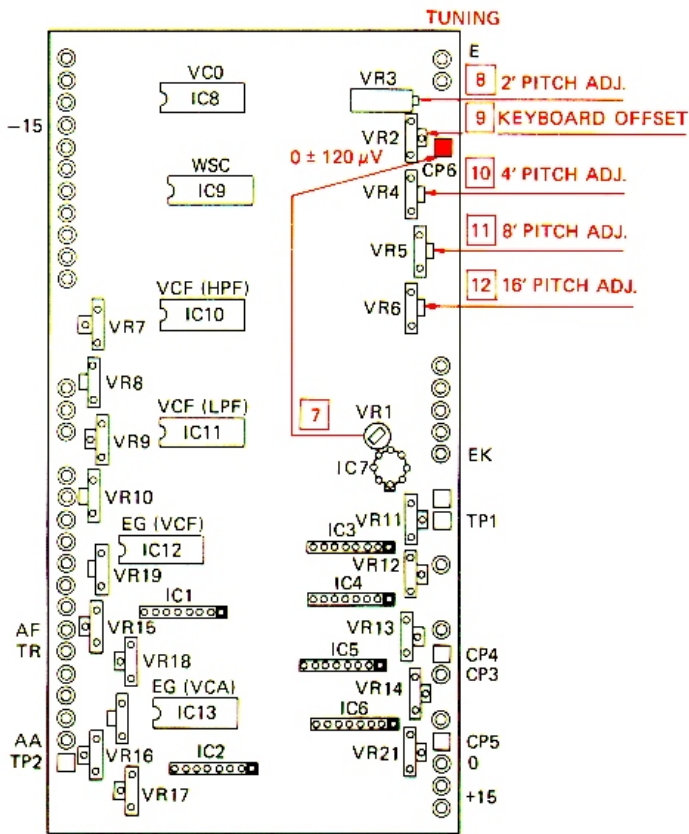

FIGURE 4. M BOARD
- Touch master boards (#1 – 7) lightly on the foil side of the boards in the area of the blue pot (VR3) at the upper front side of the circuit board. (See Fig. 4)
- To turn on #8 board depress the key on either side of the desired key 4 or more times and then hold down. While holding that key depressed, depress the desired key and release the first key. The #8 board should now be on. (If not repeat step "e".)